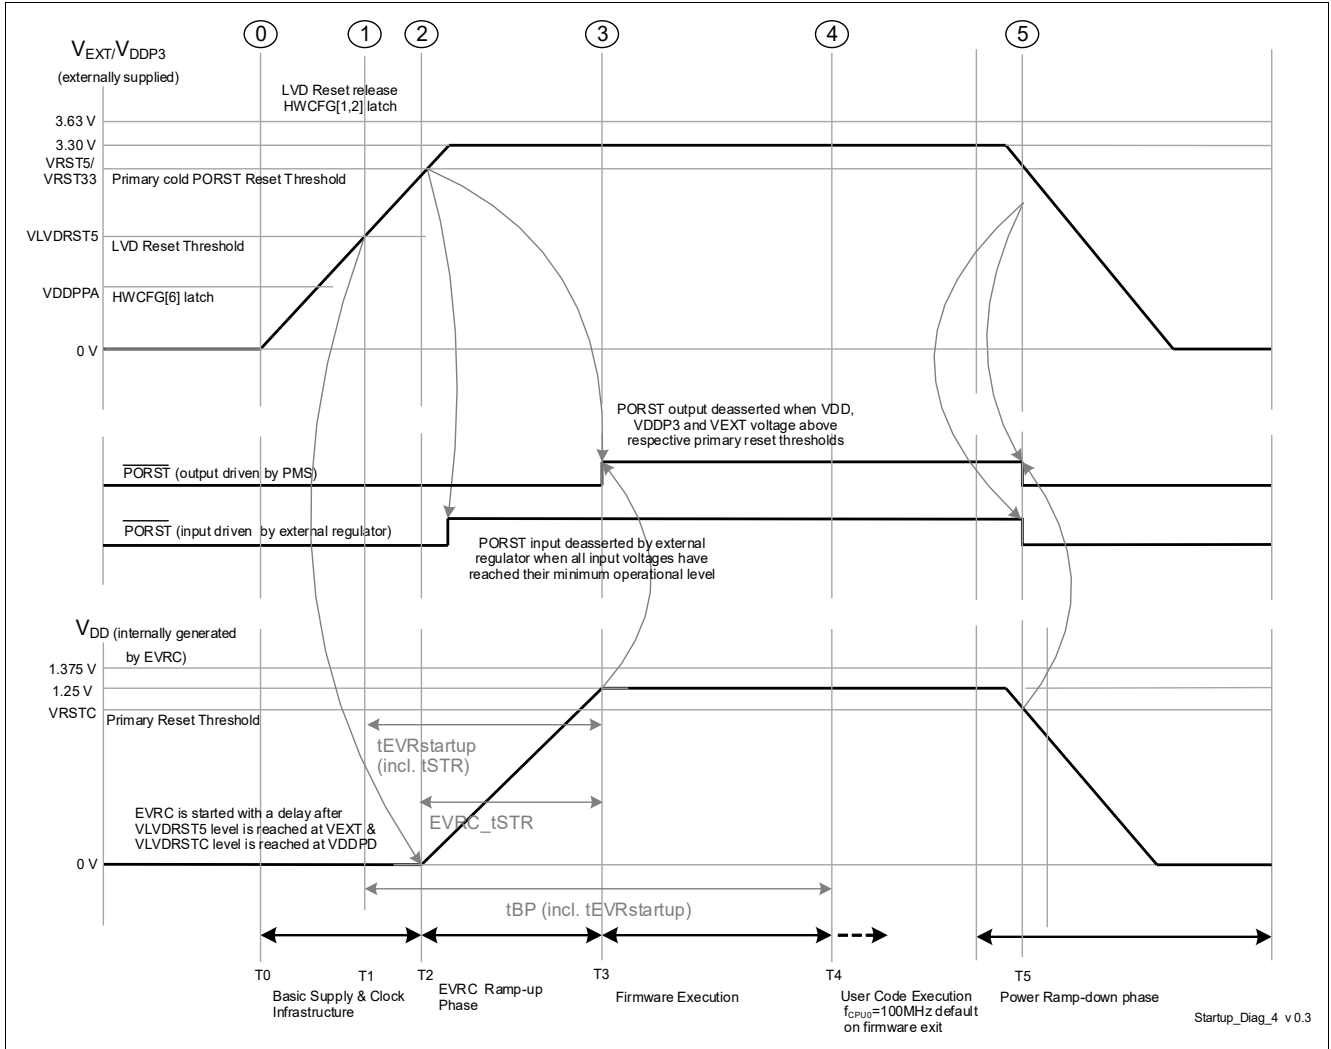

Figure 3-3 Single Supply mode (e) - (V_{EXT} & V_{DDP3}) 3.3 V single supply
- The power sequence as shown in Figure 3-3 is enumerated below